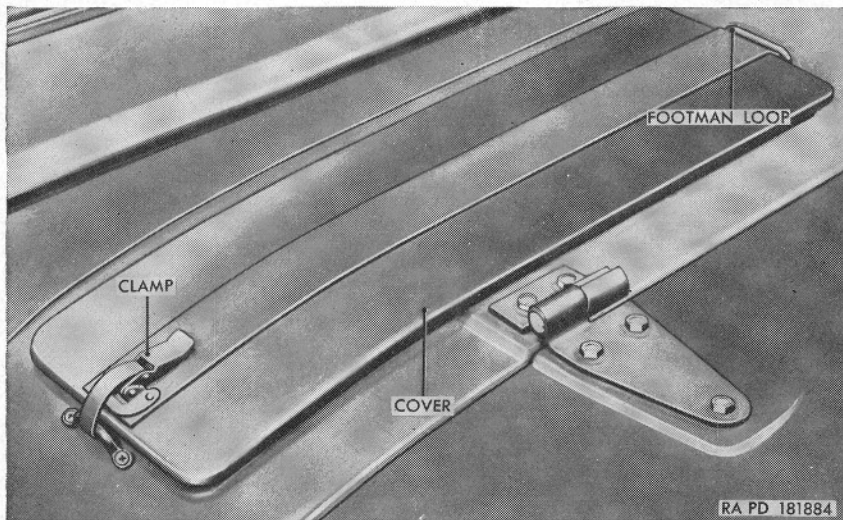

Figure 13.1. (Added) Batteries location—batteries cover installed M170.
a.1. (Added) *Unclamp and Remove the Cover (fig. 13.1) on the M170.*